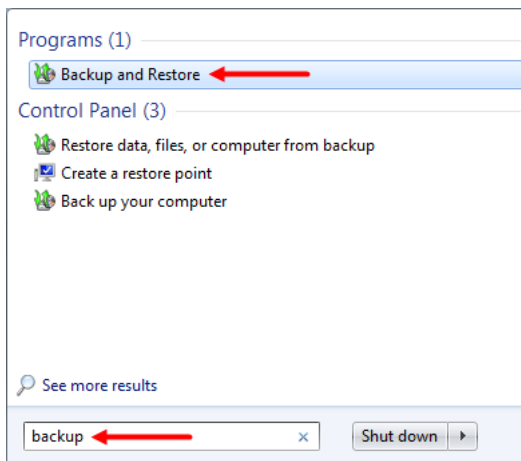

Figure 1 Windows 7 Backup and Restore
- In Windows 7, click the **Windows Start** button, enter **backup** in the search field, and click **Backup and restore**. (Figure 1).